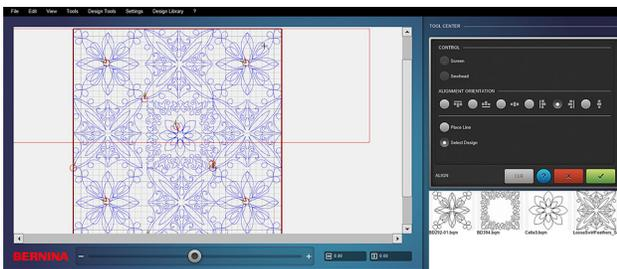

Fig. 79
7. Repeat this process for the left and right sides of the quilt (Fig. 79).